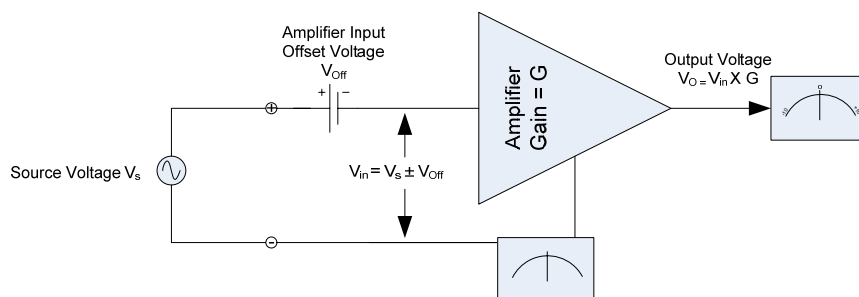
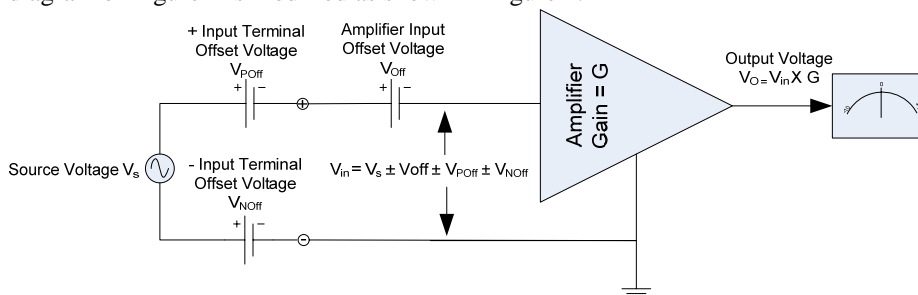
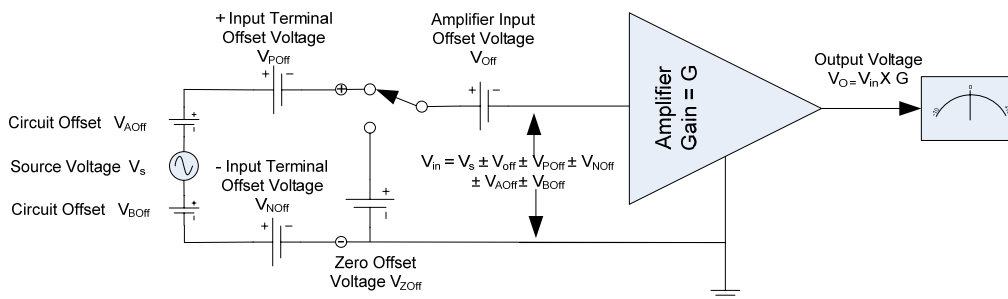
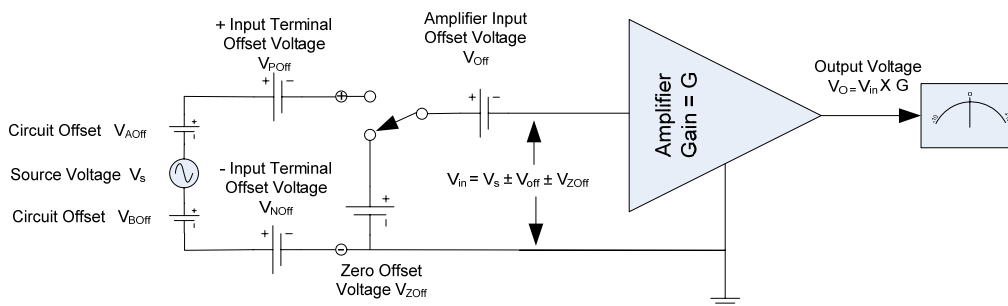

Figure 1
Figure 2
Figure 3a
Figure 3b
One way to think of this situation is shown in Figure 1. Here the input offset voltage is shown as a tiny (μV) battery in series with the input signal. Therefore, the output signal (V_O), is equal to the sum of the signal being measured (V_S) and the input offset voltage (V_{Off}), times the gain of the amplifier (G). Remember, this is actually an offset voltage in the amplifier itself—and not an offset from external factors.
To show the effect of thermally generated voltages at the instrument input terminals on the amplifier output voltage, the diagram of Figure 1 is modified as shown in Figure 2.
Figure 2 shows the amplifier output voltage now reflects A) the input signal (V_s); B) the amplifier input offset voltage (V_{Off}); and C) the DIFFERENCE between the positive input terminal offset voltage (V_{POff}) and the negative input terminal offset voltage (V_{NOff}) all times the amplifier gain (G). In this example it is presumed that both the positive and negative instrument terminals and the connections to those terminals are the same (for example, copper wire to a gold terminal). If the two terminals are exactly the same, there is no difference—that is, V_{POff} will exactly offset V_{NOff} ; however this is rarely the case. Again, typically such connections show differences in thermally generated voltages of 200 – 500 nV per degree Celsius.
In null meters and other high-precision voltmeters, there are two additional places that introduce offsets. First are other connections in the external measurement circuits. These are shown in Figure 3a as V_{AOff} and V_{BOff} . Like other offset voltages these contribute to the output voltage and change with temperature. A second circuit (often just a simple switch) that must be considered is one to quickly disconnect the amplifier input from the input terminals and “short” the amplifier input thus generating a “zero” reference. Figures 3a and 3b show the two configurations of an amplifier when a Zero input switch is used.
In Figure 3a, the amplifier output voltage is a function of the same input conditions shown in Figure 2 plus the contribution of any offsets from the external measurement circuits. That is, the output reflects the amplifier gain times the measurement voltage, the input terminal and external measurement circuit offset voltages and the amplifier input offset voltage. However, in Figure 3b, the amplifier output voltage no longer reflects any input offset voltages from the external measurement circuits or input terminals but does reflect the offset voltage generated by the Zero switch (V_{Zoff}).
From Figures 3a and 3b it can be seen that Zero created by a V_S of zero volts and a Zero created by placing the instrument in the ZERO mode may not be the same—especially if the ZERO switch is inside the instrument and thus removed from some of the environmental factors which influence the input terminals and external measurement circuits.